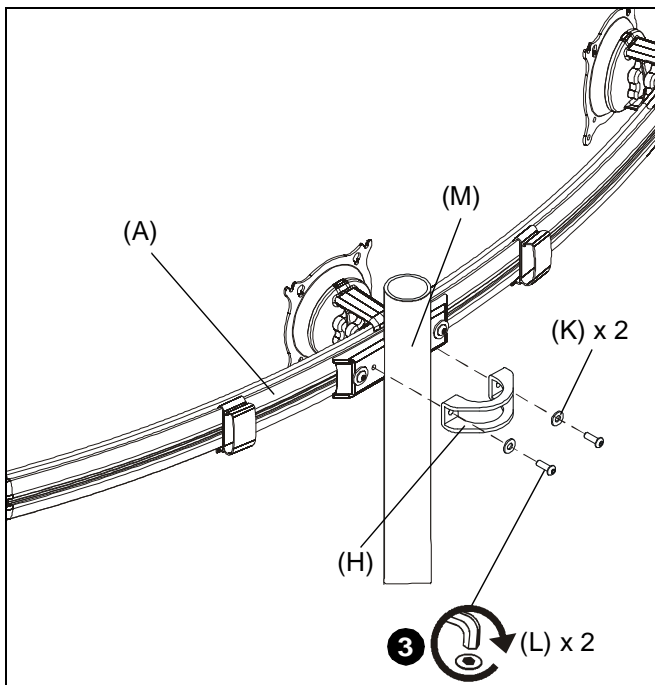

Figure 2
2. Assemble pole clamp (H) to array assembly (A) front using two 1/4-20 x 3/4" button head cap screws (L) and two washers (K) using 5/32" hex key (R). (See Figure 2)
3. Secure pole clamp (H) to array assembly (A) and 14" pole (M) by tightening two 1/4-20 x 3/4" button head cap screws (L) using 5/32" hex key (R). (See Figure 2)